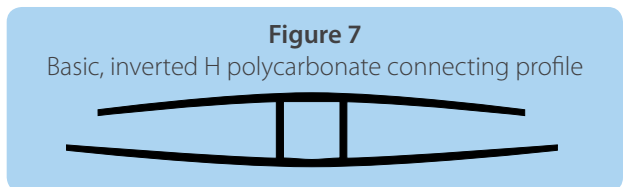

Figure 7
2. "Wet" method: both the profile channels are half-filled with silicone, which acts, after installation and curing, both as sealer and adhesive. It may offer better weatherproofing at shallower slopes than the "dry" system, but is very difficult to install properly and cleanly (Figure 7).